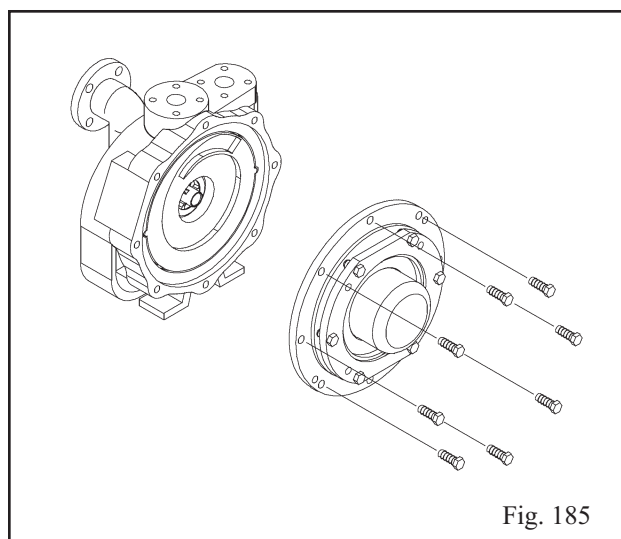

Fig. 185
17. Install containment shell / clamp ring / impeller / backplate assembly into the casing assembly and secure with casing bolts (372V) (Fig. 185).